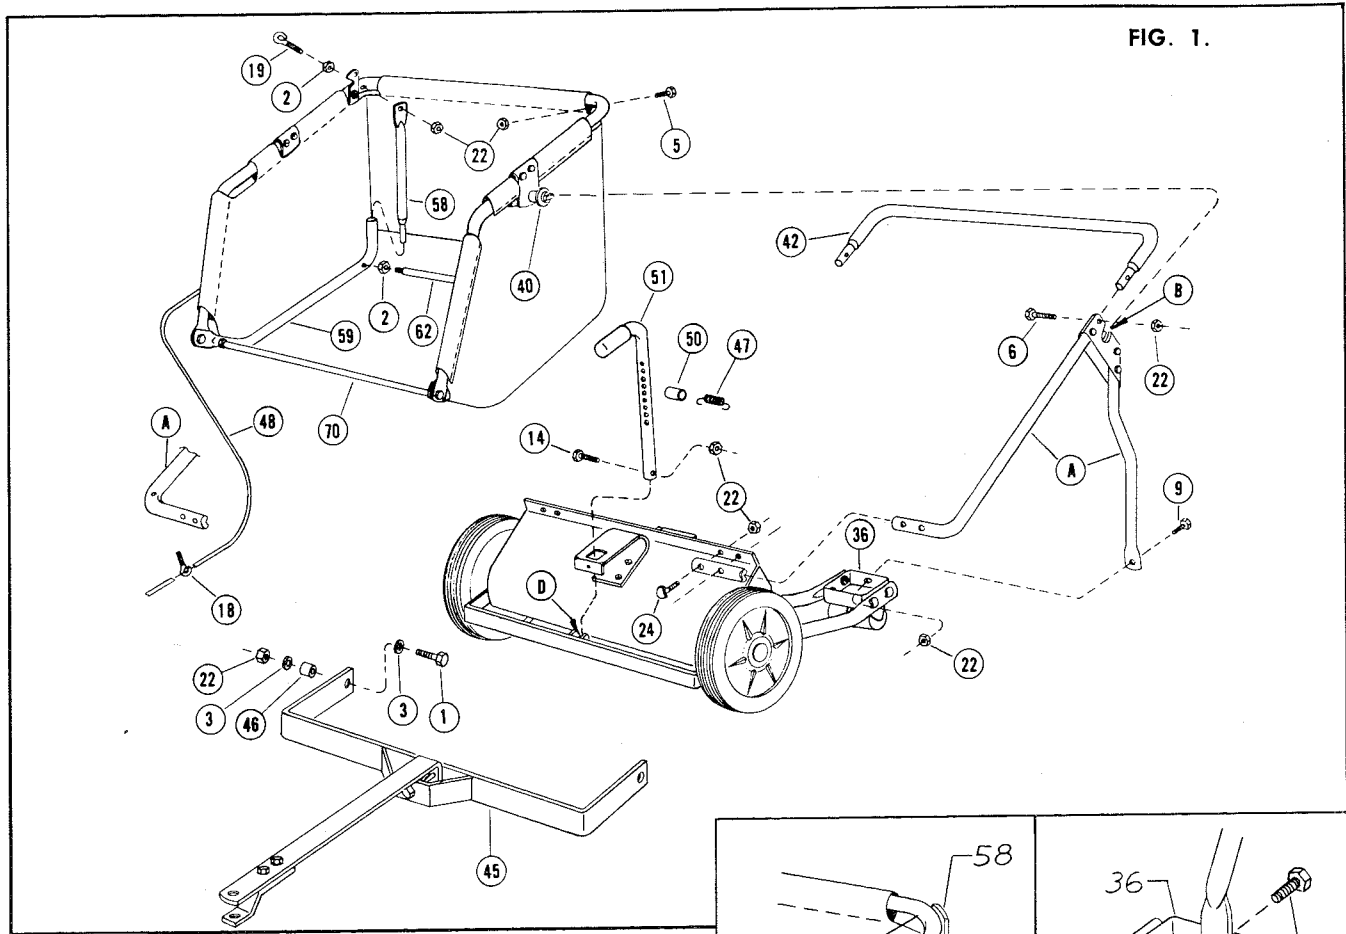

FIG. 1.
4. To assemble hamper, insert tie rod (62) (found packed with hitch) in holes of bottom hamper tubes (59). See Fig. 1. Tighten nuts (2) against tubes until hamper is just taut. Adjust the nuts to make sure that the tie rod ends do not protrude through the hamper tubes (59) and damage the hamper. DO NOT OVER STRETCH.
5. Insert reduced ends of support tubes (58) in bottom hamper tubes (59). Make certain top ends of tubes (58) are OUTSIDE tubes (56). See Fig. 2. Fasten top left tube with bolt (5) and nut (22); use eye bolt (19) and nuts (2, 22) at top of tube (58) on right side. See Fig. 1.
6. Install pivot support assemblies (A) on chassis using bolts (24) and nuts (22). Fasten vertical tube INSIDE caster plate (36) using bolt (9) and nut (22). See Figs. 1, 3.
7. Install pivot brace tube (42) in ends of pivot supports and secure with bolt (6) and nut (22). See Fig. 1.
8. Hang hamper (70) inside pivot frame by placing under brace tube (42) and sliding pivot pins (40) in slots (B). See Fig. 1.
9. Feed dump rope (48) through eye bolt (18) on right side pivot support tube (A). See Fig. 1.
10. To install adjustment tube (51), push spring (47) and retainer tube (50) to rear and force adjustment tube between tube (50) and lock pin (C). See Fig. 4. Slide tube down between lugs (D) on bumper and secure with bolt (14) and nut (22). See Fig. 1.